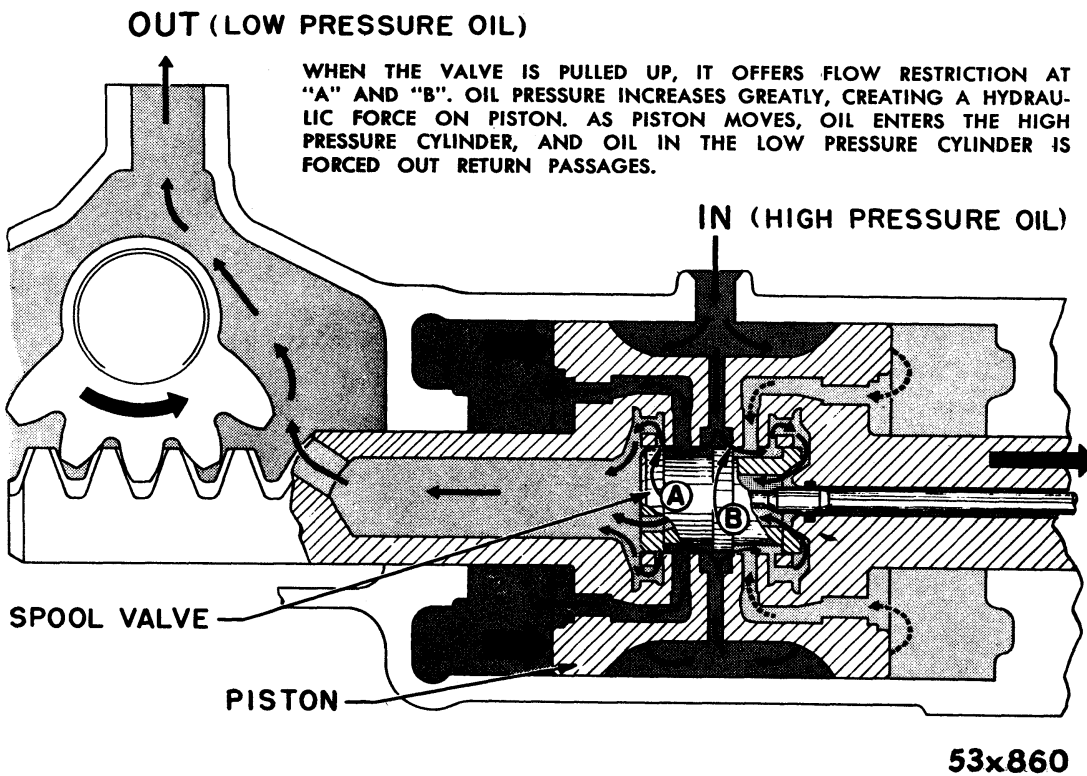

Fig. 14—Oil Flow—Right Turn—Valve Pulled Up
puts the power system into operation, as shown in Figure 14.
The instant the valve is moved, two important things happen: (1) the inlet oil pressure increases because of restricted openings between the valve and valve body, and (2) the increased pressure is directed to one side of the power piston. The restrictions causing the pressure rise are marked "A and B" in Figure 14. These narrow spaces "dam up" the oil that is being forced through the system by the oil pump. Because the pump is a positive-displacement type, the oil must keep moving. As the oil "piles-up" behind the restrictions, its pressure increases tremendously, squeezing oil through the narrow spaces at a very fast rate. Often the restrictions may close completely, giving operating pressure at the fastest possible rate. The maximum pressure build-up is limited to 800 psi by a pressure relief valve in the pump assembly.
The high oil pressure is directed to the lower end of the cylinder (for this case through the passages indicated in Figure 14). However, the opposite end of the cylinder is open to the